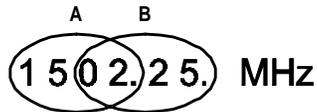

Figure 8. L-Band frequency low and high-resolution display
L-Band frequency: (see Figure 8) For example; if a current L-Band frequency is 1502.25 MHz, changing to Alt-1 Mode (ALT LED flashes) and pressing 4 (to display Lb1 or Lb2), and then pressing 7 displays the four most significant digits on the front panel (i.e., 1502.). At low resolution (A), pressing the up \uparrow or down \downarrow arrow button advances the frequency up or down in 1 MHz steps (i.e., 1503., 1504., and so on). Pressing and holding down the up \uparrow or down \downarrow arrow button will increase the step size further.